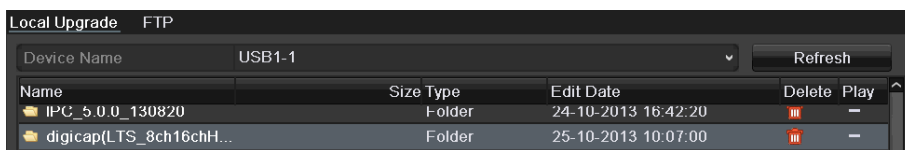

Figure 14-7 Local Upgrade Interface
Step 3 Click the **Local Upgrade** tab to enter the **Local Upgrade** interface, as shown in Figure 14-7.